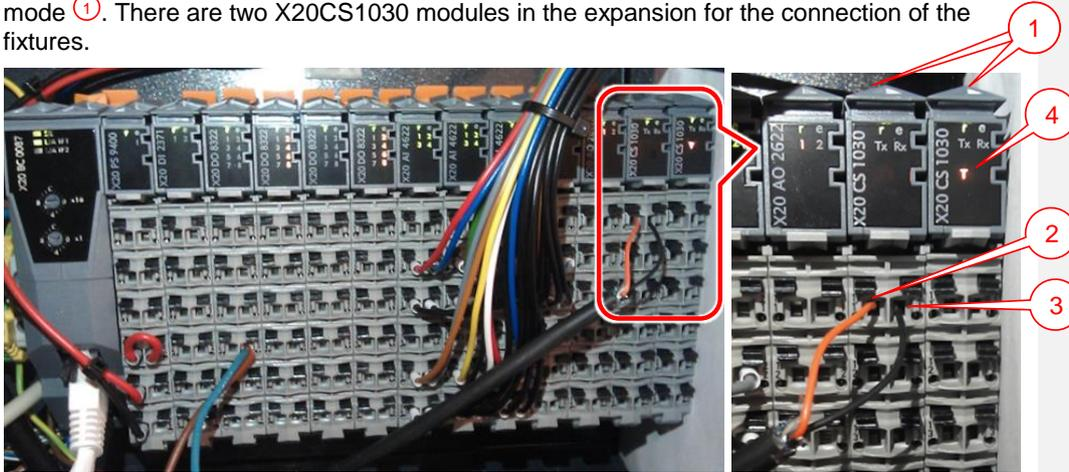

Figure 31: The X20 module in the expansion – outtake of the X20CS1030
The terminating resistor can be turned on and off with a switch on the bottom of the X20CS1030 as shown below. If the terminating resistor is active it will be shown on the front with a T ④ in Figure 31).